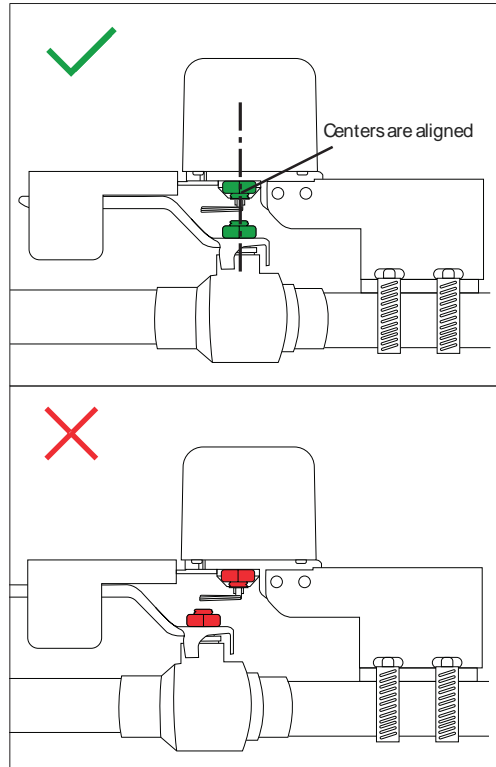

Figure 5
- Position the bolt of the Water Main Shut-Off DIRECTLY above the bolt of the ball valve, and tighten the hose clamps until the Shut-Off is completely secure (fig 5.)
It is absolutely critical that the axes for both the valve and Water Main Shut-Off are aligned. Improper installation will result in unreliable performance. Examine Figure 5 for more details and please visit www.domeha.com/support if you require further assistance.